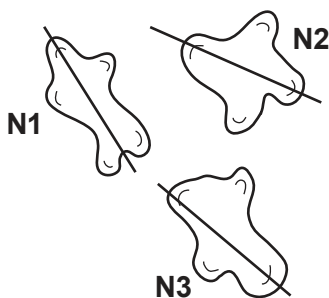

Fig. 2.2
The student used the microscope to observe and draw three starch grains to the same scale. The student drew a line across the length of each drawing of a starch grain. The student's drawings are shown in Fig. 2.2.
- (iii) Find the mean **image** length of the three starch grains drawn by the student, along the lines shown in Fig. 2.2.
- (iv) When viewed using the microscope, the student found that starch grain **N1** measured 4 eyepiece graticule units along the position of the line drawn in Fig. 2.2.
Use this information and your answer to **(a)(iii)** to calculate the mean **actual** length of the three starch grains in Fig. 2.2.